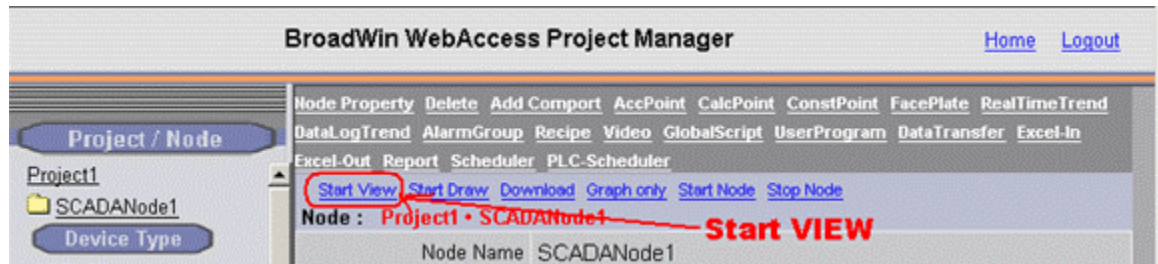

Figure 3-12 Start VIEW from Project Manager
8. Select Start View (Figure 3-12).